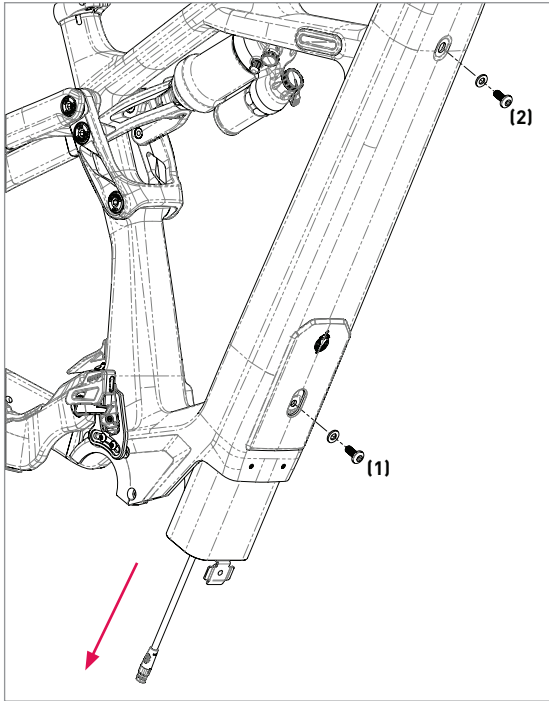

Figure 15
3. Remove the pair of battery mounting screws (#1 and 2 in Fig. 15) and washers located on the under-side of the down tube using a T30 wrench/socket.